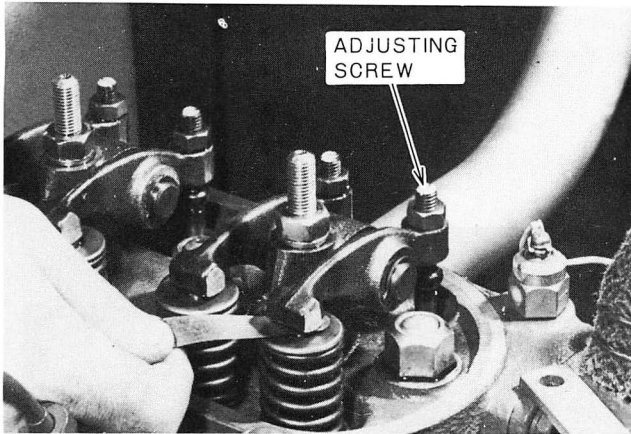

Figure 49 – Checking Valve Clearance
2. With the engine idling, check the clearance of each valve with a feeler gauge, Figure 49.